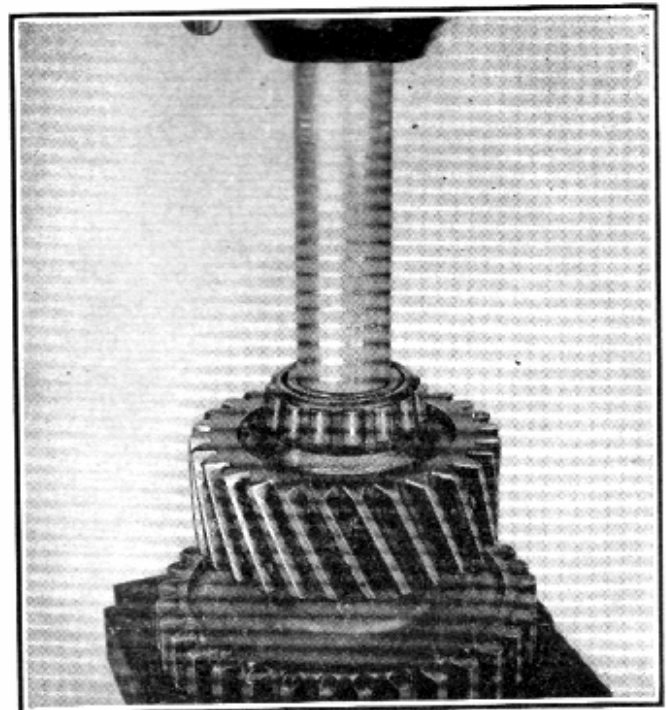

Fig. 31—Installing Idler Shaft Bearing, Tool No. J-1718
1. Place the low speed gear (91) over the front end of the idler shaft (92) with the longer hub of the gear facing toward the centre of the shaft. Support the front face of the gear and press on the rear end of the shaft until the shoulder of the shaft is  $\frac{1}{16}$ " of being flush with the front face of the hub of the gear. The dimension from the front end of the shaft to the face of the hub of the low speed gear should be  $1\frac{3}{8}$ ".
2. Place the high speed idler gear (90) over the rear end of the shaft (92). Support the rear face of the gear on an arbor press and press on the front end of the idler shaft (92) until the two gears (90-91) are flush with each other.
3. Install the two bearings (89) with the thick side of the cones toward the gears. Using tool J-1718 as shown in Fig. 31, press the bearings on the shaft flush with the face of the gears, being careful not to move the gears from their original setting.
**NOTE:—**The idler shaft is the only one that has shims at both the front and rear bearing caps. It will therefore, be necessary to align the idler shaft high speed gear in a centralized position so that its face will be flush with the other two gears (see Fig. 31).